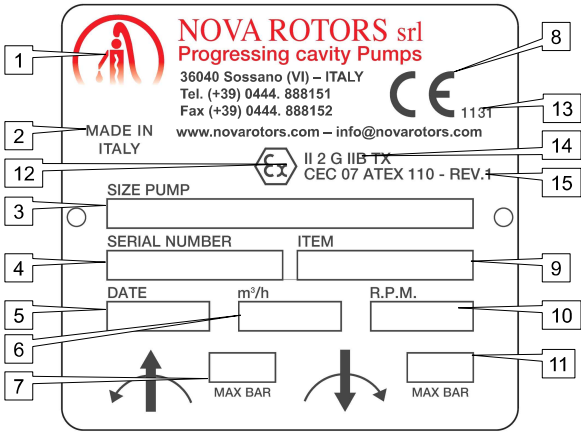

Fig.5 - Data plate for ATEX pump
- for ATEX pumps (Fig.5).
The ATEX marking consists of the following elements (14 - Fig.5):